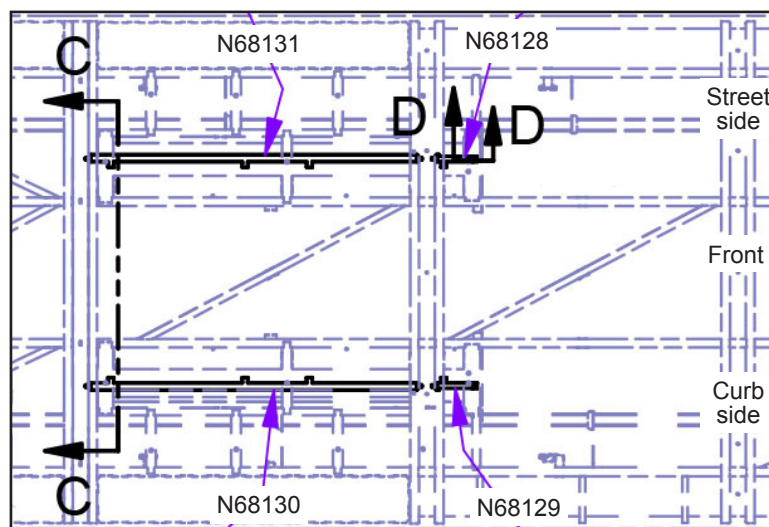
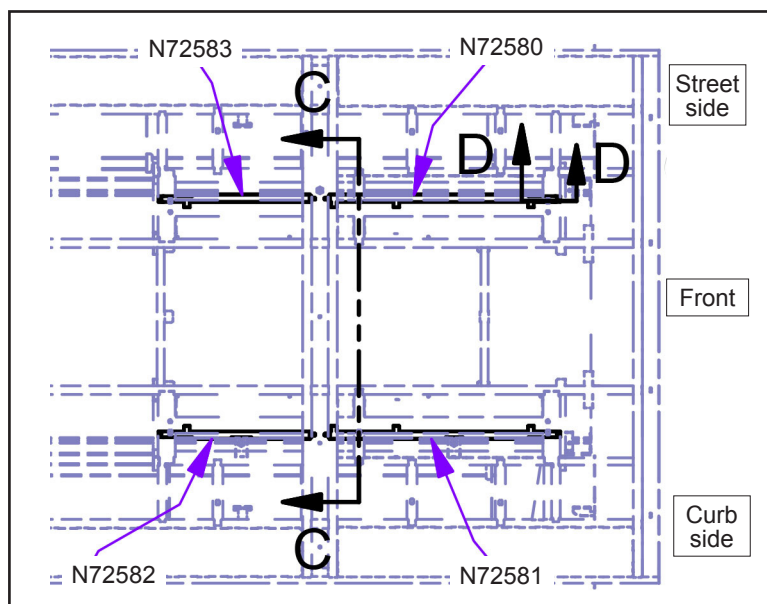

Figure 3 - Location of the Front Locking Plates (View From Inside)
Figure 5 - Location of the Rear Locking Plates (View From Inside)
- 1.5. Install the locking plates on the structure to allow the locking of the latches. See Figures 3 and 4 for the FRONT part of the vehicle and Figures 5 and 6 for the REAR part of the vehicle.